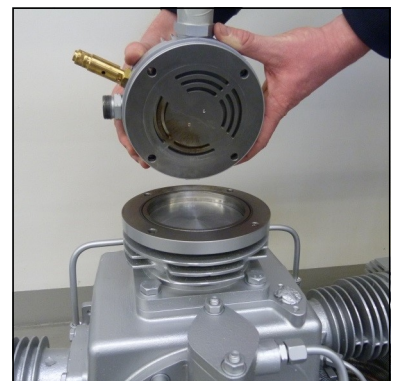

Fig. 7 - Remove valve head
- Remove complete valve head 1st stage (Fig. 7).